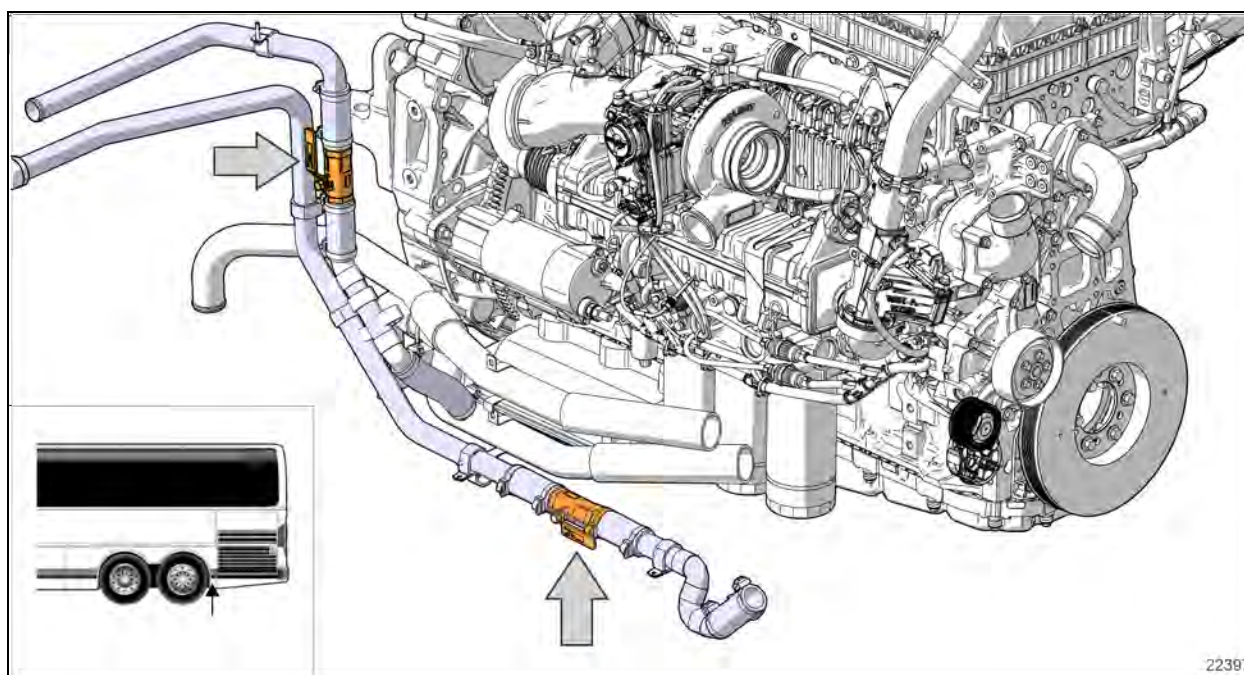

FIGURE 54 X SERIES HEATER LINE SHUTOFF VALVES- (ALLISON TRANS. PIPING ARRANGEMENT SHOWN)
3. Close the hot water lines shutoff valves located next the engine on the street side (see Figure 54).
2. Close both heater line shutoff valves (Figure 54). One is located in the engine compartment, lower road side, near the radiator while the other one is located behind the L.H. hinged rear fender near the preheater.